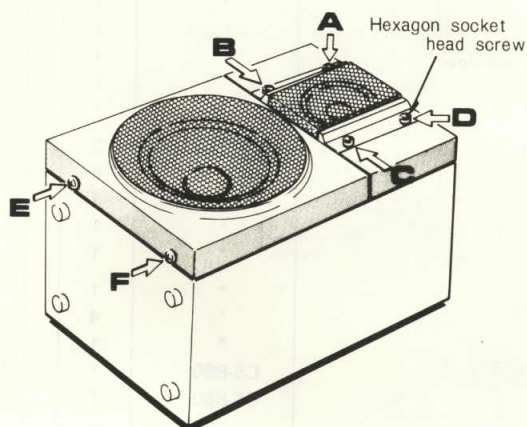

Fig. 13
1) Unfasten the four decorative screws A to D by a hexagonal wrench of 2.5mm. (See figure 13)
2) Unfasten the two screws E and F. (See figure 13)